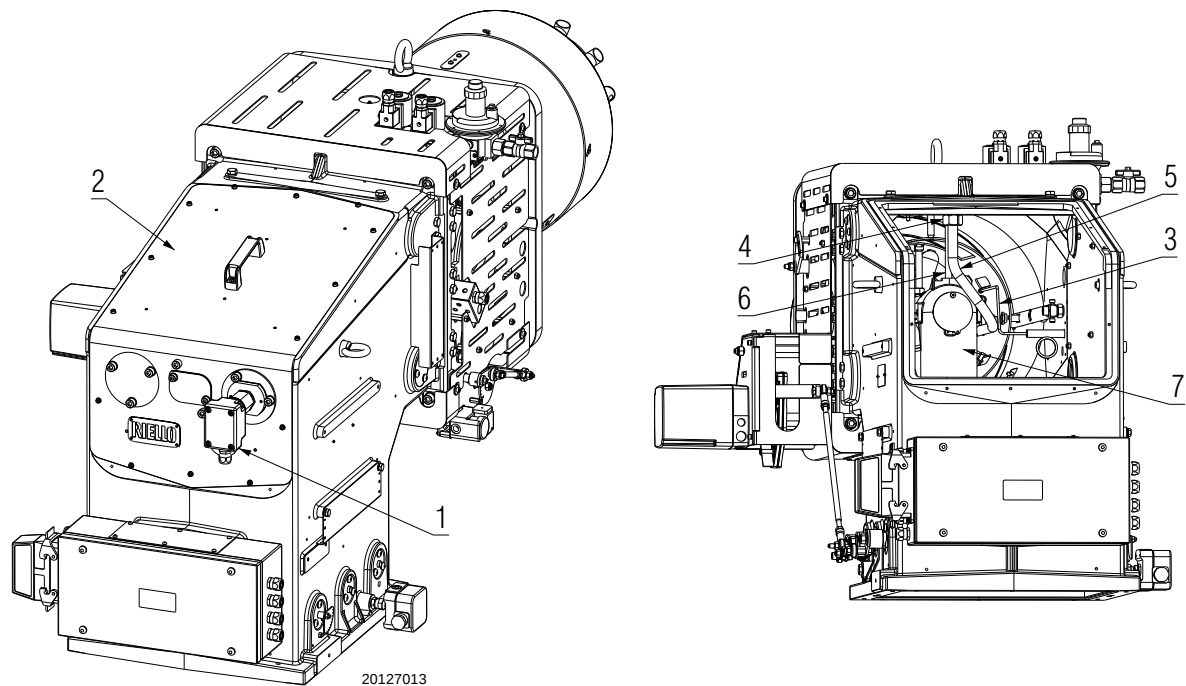

Fig. 16
- Disconnect the photocell 1)(Fig. 16);